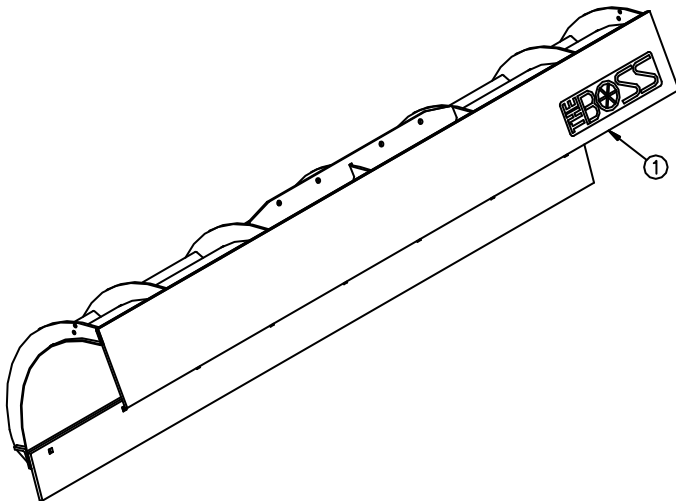

Figure 9. Clamping Procedure
- 2) Clamp the Rubber Belting (1) to the top edge of the blade as shown in Figure 9.